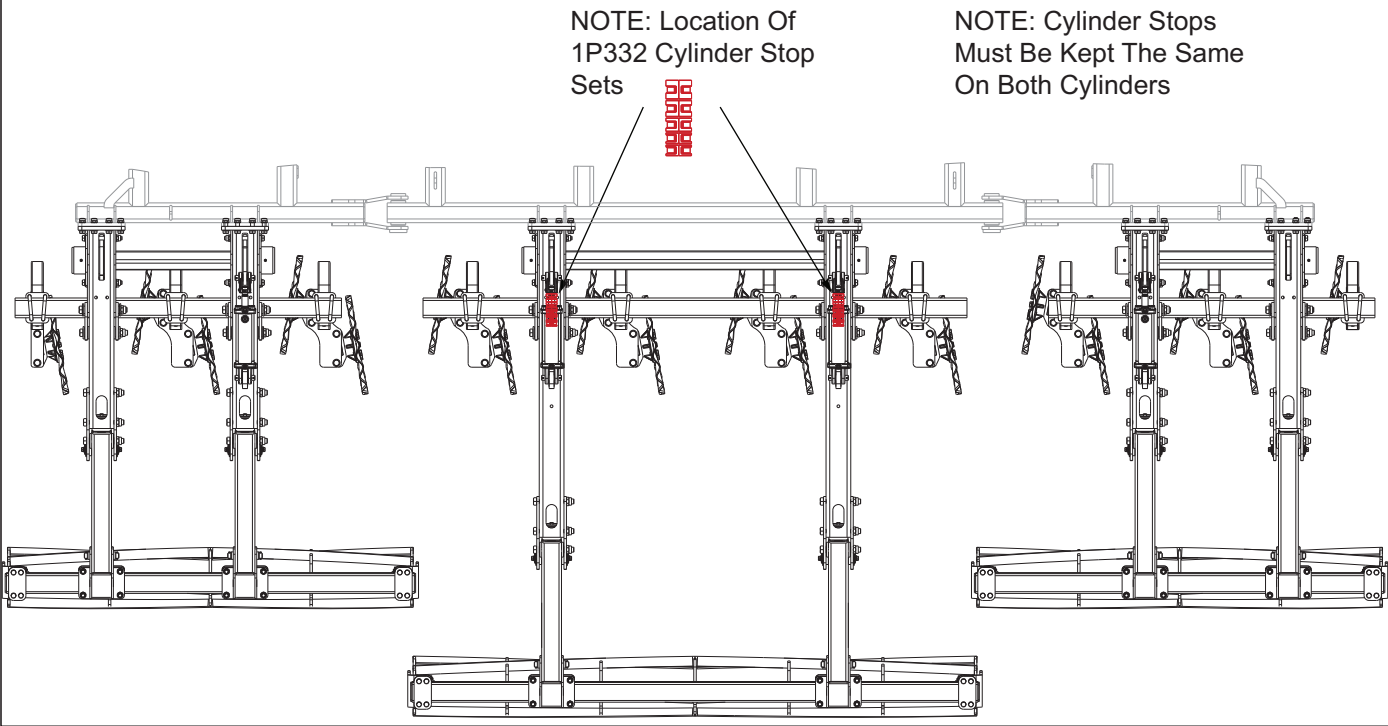

Figure 4-20: Hyd Disc Lev/Reel Cylinder Stop Location
1. Cylinder stops have been provided to maintain depth position for the disc leveler. With the cylinder stops installed, the leveler will still be able to fully raise for vtransport. See Figure 4-20 for the cylinders to place the cylinder stops on.